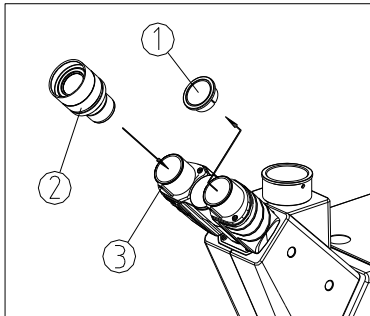

Fig. 5
- (1) Take down the eyepiece tube cover ①. (See Fig.5)
- (2) Insert the eyepiece ② into the eyepiece tube, until it touches the surface.
- (3) When using the adjustable eyepiece to adjust the diopter, lock the eyepiece ② by the inner hexagon lock-screw ③ to avoid its rotating.